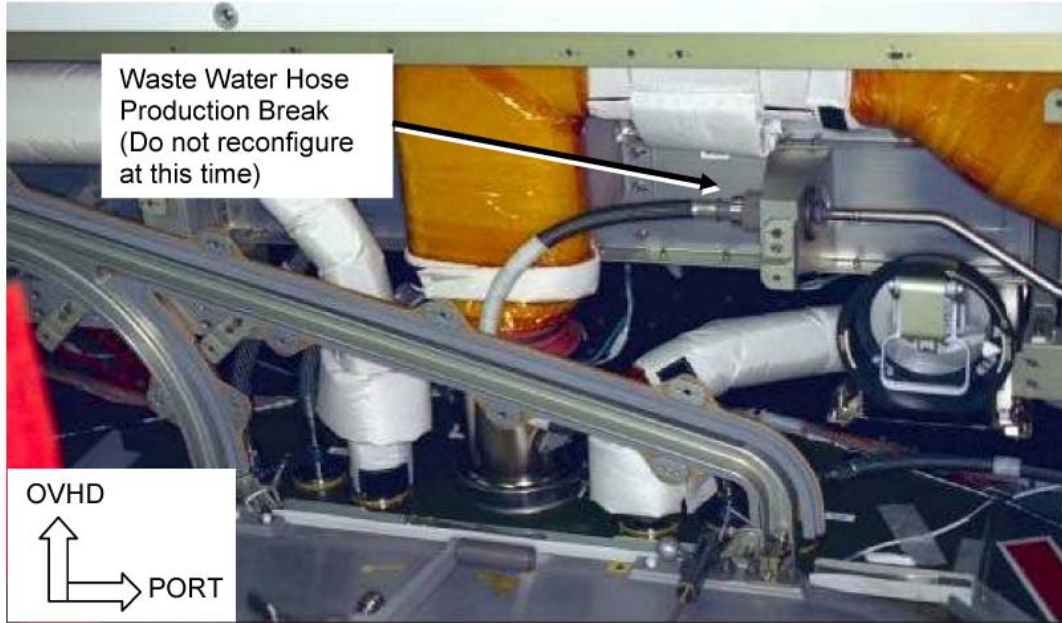

Figure 27.- Node 1 Nadir Midbay, Forward Side.
- 15.12 Locate and route NOD1 Waste Water Hose to center of Nadir Midbay. Keeping hose to the port side of the Node 1 Nadir-aft IMV Valve, pass QD to second crewmember in Node 1 Deck Radial bay. Restrain NOD1 Waste Water Hose to currently installed hose at production break (QD1E30) (Velcro Tie). Do not reconfigure Waste Water QDs at this time. Refer to Figure 27.